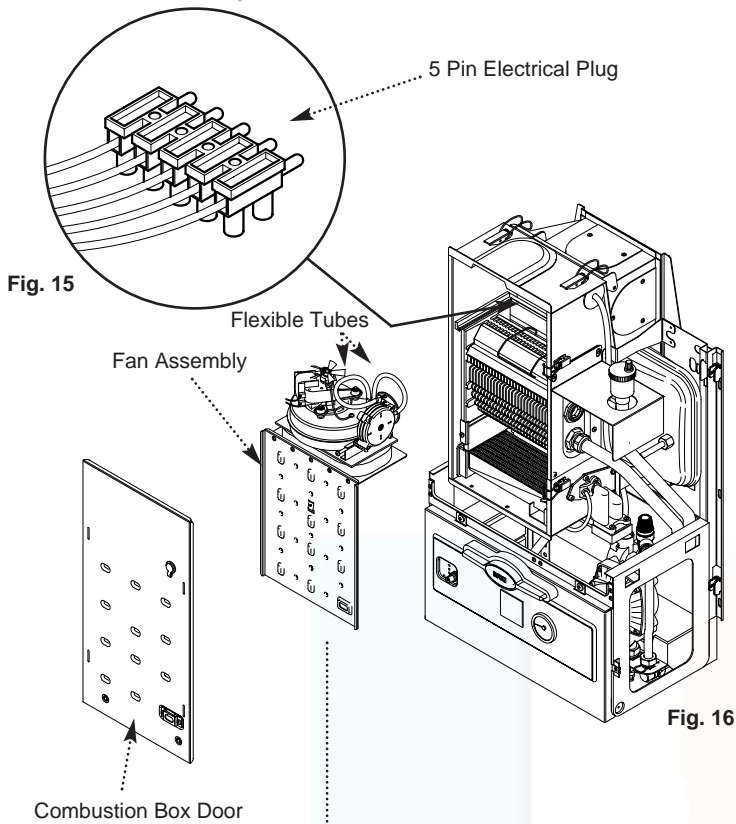

Fig. 16
1. Release the four latches holding the combustion box door (Fig 16). Remove the combustion box door by pulling forward (Fig. 16).
2. Release the 5-pin electrical plug connecting the pressure switch and fan (Fig. 15). Withdraw the fan assembly by pulling forwards from the top edge (Fig. 16).
5. Re-assemble the fan assembly and combustion box door ensuring that the flexible tubes from the fan unit to the pressure switch are routed correctly and that they are not kinked or flattened (Fig. 16).